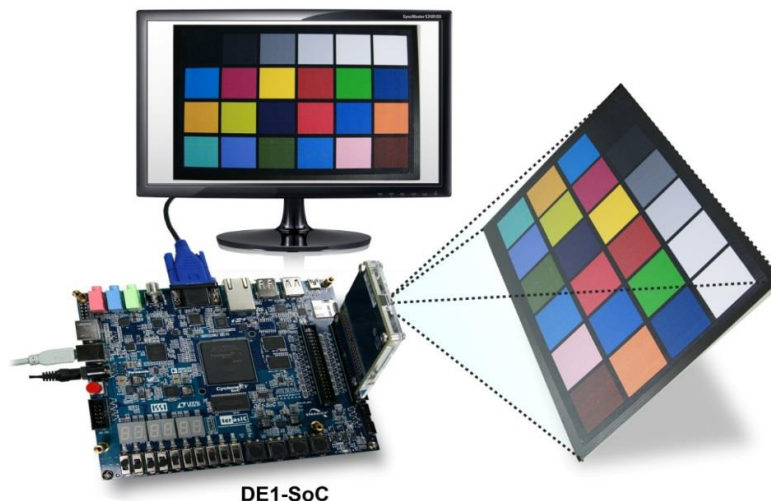

Figure 5-2 Setup Connection of DE1_SOC_D8M_VIP demonstration
- Connect a USB cable between the host PC and the USB connector (J13) on the DE1-SOC board (See **Figure 5-2**).